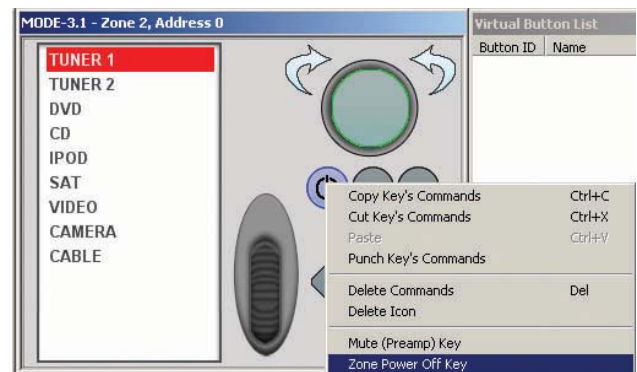

Figure 34
7. Right click the **MODE Power Button**. In the pop-up, highlight and left click **Zone Power Off Key** as shown in **Figure 34**. This will configure the key for **Zone** and **Whole House Off** and punch the commands to all banks. The key will highlight green to indicate special whole-house functionality.